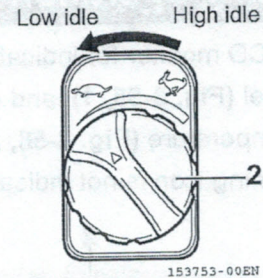

Fig. 3-56
2. Turn the engine control dial (Fig. 3-56, 2) to the Low idle direction.